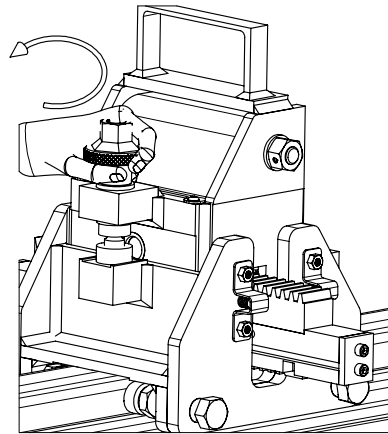

Figure 20: Half turn counterclockwise to lift the cutting tool off the rail
6. Hand turn the height adjustment knob counter-clockwise a half turn to lift the cutting tool off the head of the rail (**Figure 20**) in preparation for moving the gear rack.